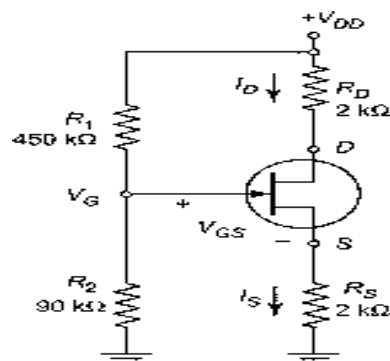

Figure 5.1.1
3. An N-channel JFET having $V_p = -4\text{V}$ and $V_{DSS} = 10\text{mA}$ is used in the circuit of Figure 5.1.1. The parameter values are $V_{DD} = 18\text{V}$, $R_s = 2\text{k}\Omega$, $R_1 = 450\text{k}\Omega$ and $R_2 = 90\text{k}\Omega$. Determine I_D and V_{DS} .